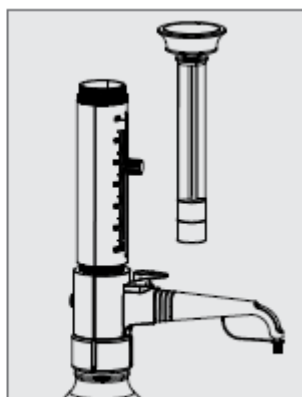

Fig. 10
2. Take out the piston completely as shown in Fig. 10